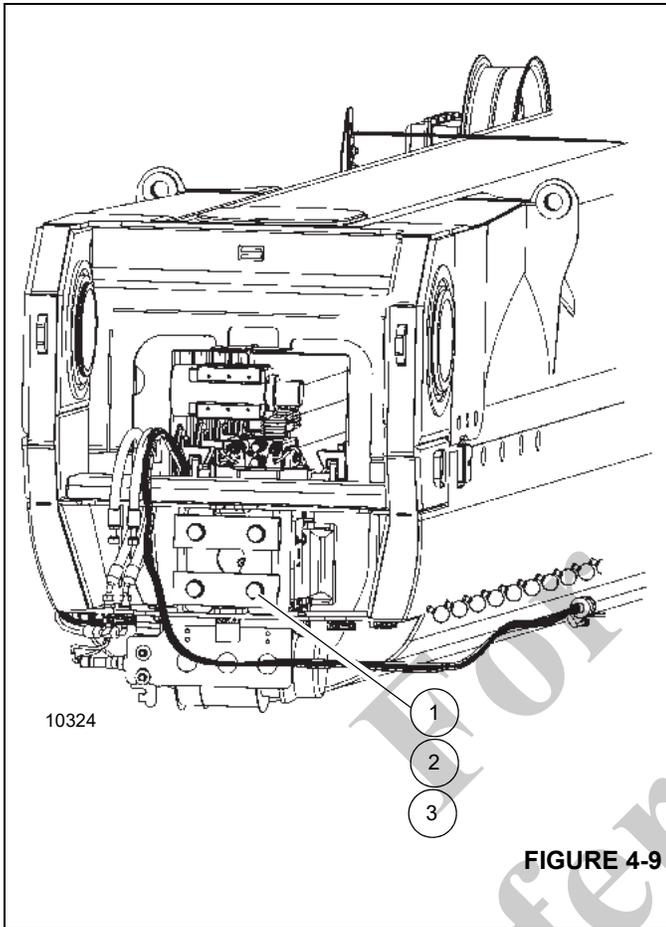

FIGURE 4-9
2. Remove the cylinder retaining bolts (1, Figure 4-9), washers (2), and two retaining plates (3).